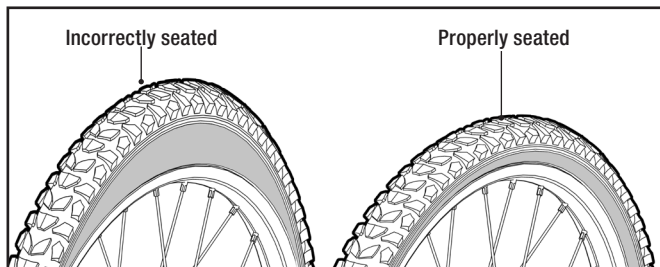

Figure 43
**⚠ WARNING:** Be sure to check that the edge (beads) of both tires are evenly seated the entire way around on both sides of the tire. Failure to do so may result in the tire coming off of the rim, the tube popping (see Figure 43), and a loss of control of the bicycle, causing injury or even death.